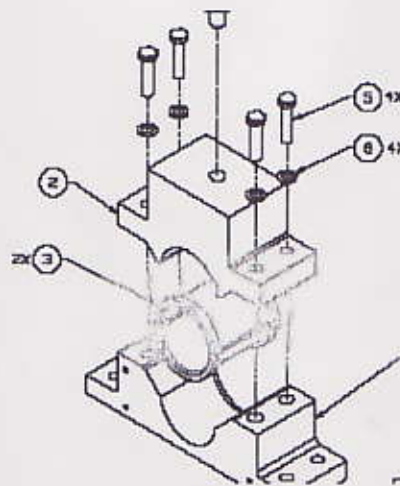

Figure 6
9. Cut the lock wire and remove the bolts, NAS1958C20H, item 5 in Figure 6, and countersink washers, NAS1587-8C, and remove all four trunnion block top assembly, SDG38117061-301, item 2, and all four top halves of trunnion block bushing, SDG38117012-001, item 3. Place the fasteners and bushings in the marked bag for identification.